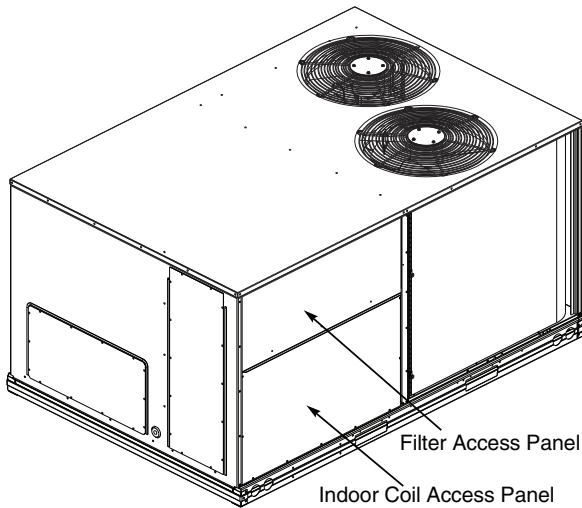

Fig. 10 — Typical Access Panel Locations
2. To gain access to the hood, remove the filter access panel. (See Fig. 10.)